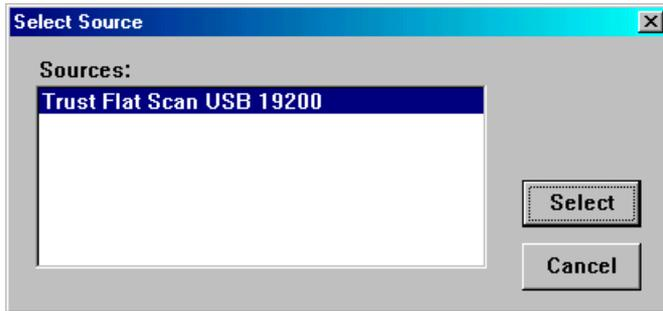

Figure 26: Selecting the scanner
4. Go to 'Get Photos From' and select 'Select Source...'. Figure 26 will appear.